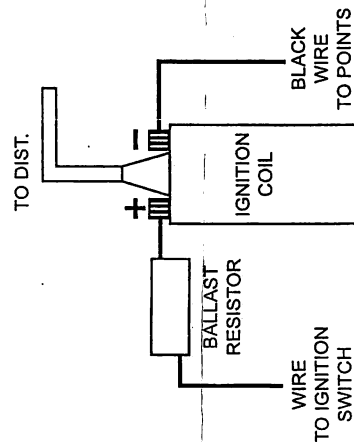

FIGURE 2
5. The red wire from the Ignitor should be connected to the positive (+) side of the coil, or a 12-volt switching power source. (See Figure 2 & 3). The black wire must be connected to the negative (-) side of the coil.
11. For installations that do not use a primary ballast resistor, connect the Ignitor red wire to the positive (+) side of the ignition coil. (See Figure 2)